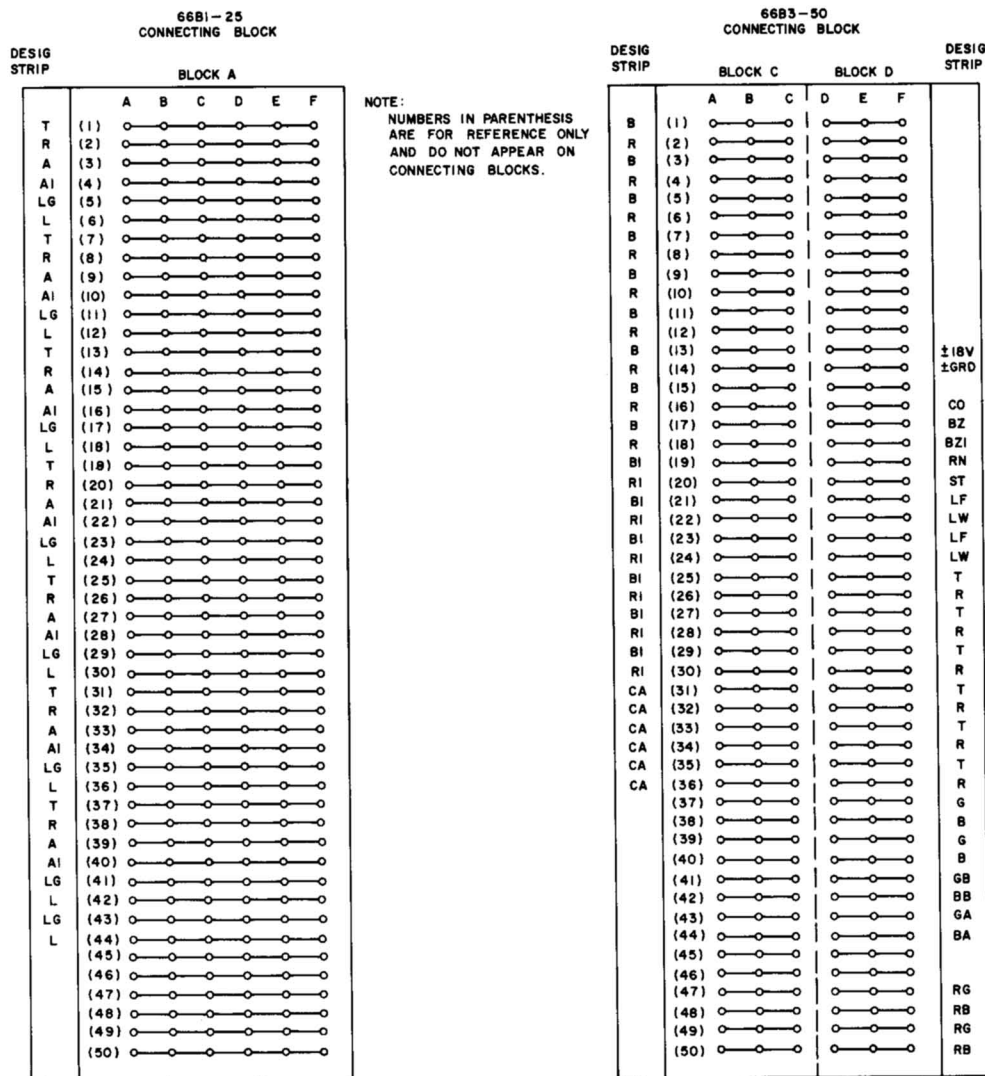

Fig. 2—Terminal Layout of Connecting Blocks A, C, and D
4.01 See Fig. 2 for layout of connecting block terminals.